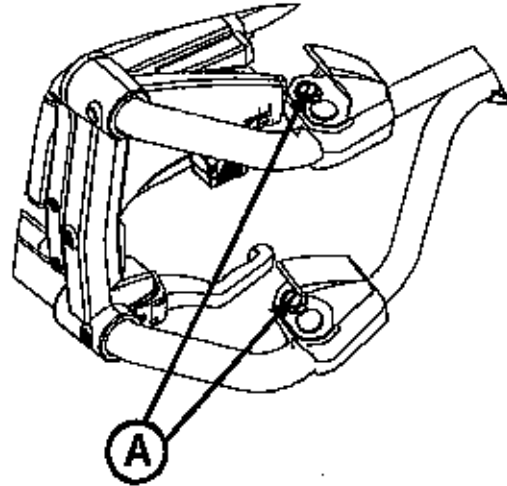
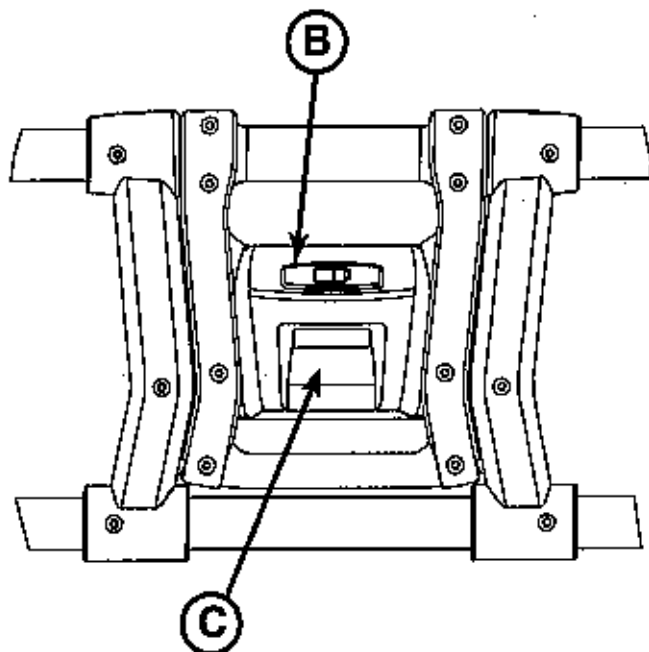

Figure 20
Figure 21
To check the battery power level, press the retract (-) button (A) as shown in Figure 20 on the cot control switch to activate the cot battery LED Indicator (B) as shown in Figure 21 on page 34.
The hour meter (C), located on the foot end control enclosure, indicates the amount of time (HHH.H hours) that the hydraulics have been activated as shown in Figure 21. You can use the hour meter to determine the frequency for preventive maintenance procedures as listed on page 80.